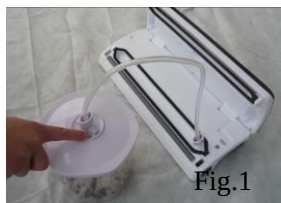

Fig.1
2. Use scissors to cut a bag from the bag roll to desired length – **Fig. 1.**
3. Insert the open end of the bag into the vacuum chamber area. Make sure the air intake is not covered by the bag. – Fig. 1.
3. Open the appliance cover. Connect one end of the hose to the air intake in the vacuum chamber area and fit the other end of the hose into the center hole of the food container cover. Make sure the food container cover knob is turned to "SEAL" position – Fig. 1&2.